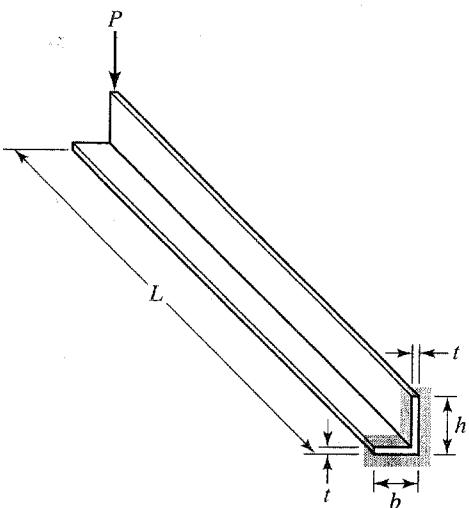

FIGURE P7.20
7.20. In Figure P7.20 let $b = 300 \text{ mm}$, $h = 300 \text{ mm}$, $t = 25.0 \text{ mm}$, $L = 2.50 \text{ m}$, and $P = 16.0 \text{ kN}$. Calculate the maximum tensile and compressive stresses in the beam and determine the orientation of the neutral axis.